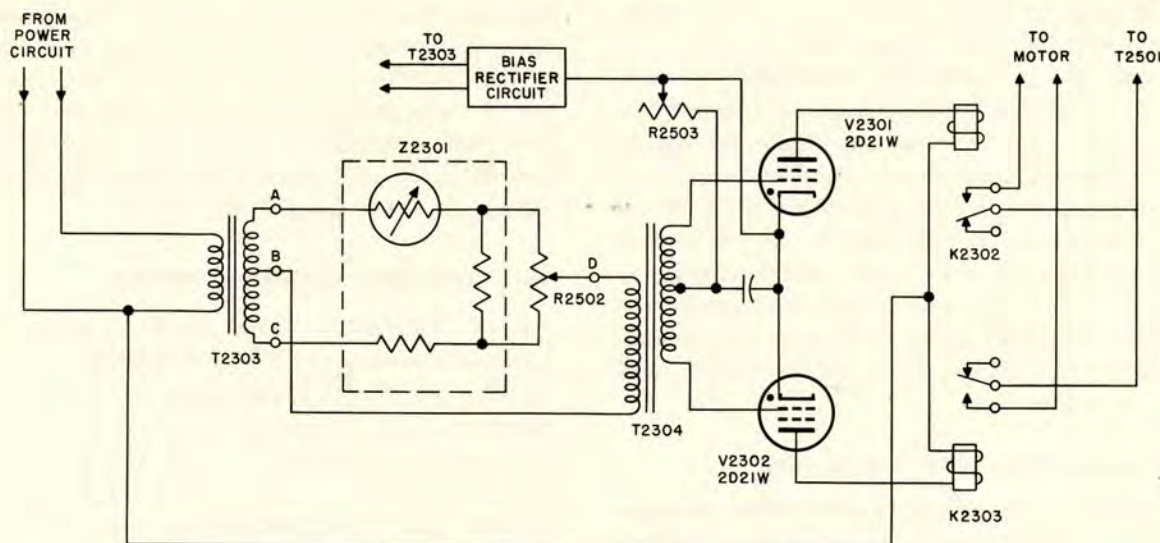

Figure 2-15. Voltage Regulator Control Circuit, Simplified Schematic Diagram
c. CONTROL CIRCUIT. — The control circuit continuously samples the regulated output voltage, and if the voltage departs from the preset value it energizes the motor in the power circuit in such a manner as to restore the output voltage to the desired value. The control consists mainly of an error sensing bridge circuit and a thyatron switching circuit. (See figure 2-15.)